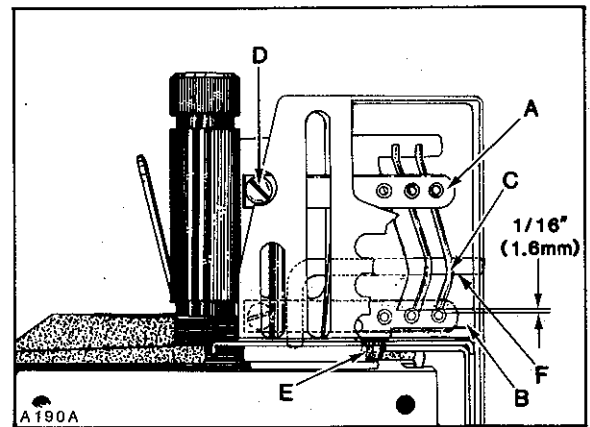

Fig.25
Needle bar eyelet (A, Fig. 25) should be set with its eyelets 1/16 inch (1.6mm) below strike-off (B) on needle thread take-up cam wire (C), as shown in Figure 25, with needle bar at BOTTOM of stroke.